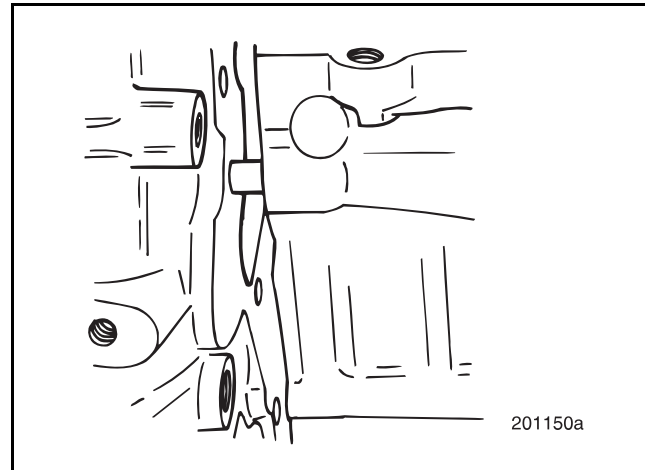

Figure 6-29 — Positioning Flywheel Housing
5. Align the flywheel housing on the dowels and position it flush against the cylinder block surface. Refer to Figure 6-29.